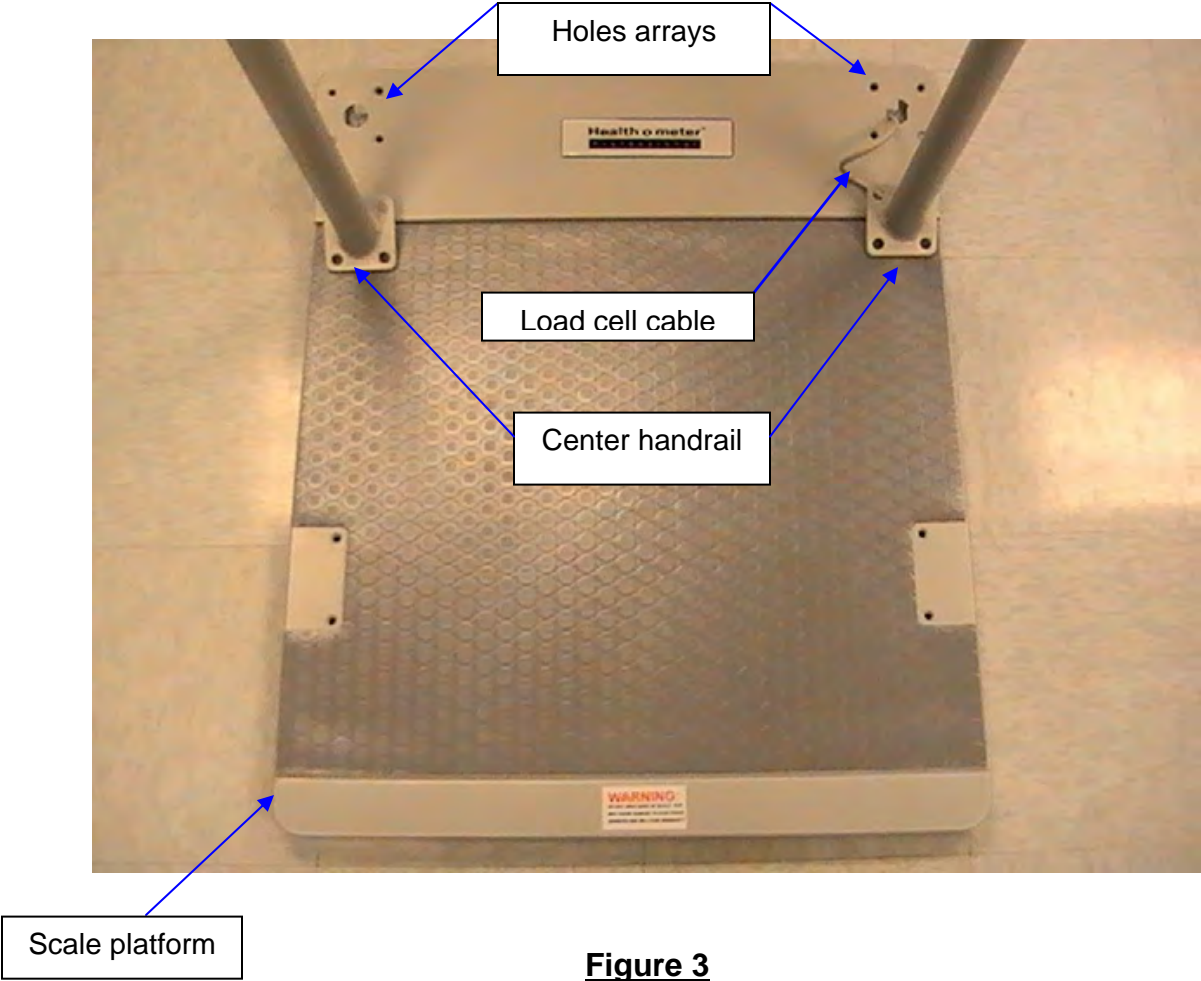

Figure 3
2. Locate and pick up the center handrail. Find the load cell cable connector, located at the bottom of the center handrail. Untie it and pull it out the bottom (see Figure 3).